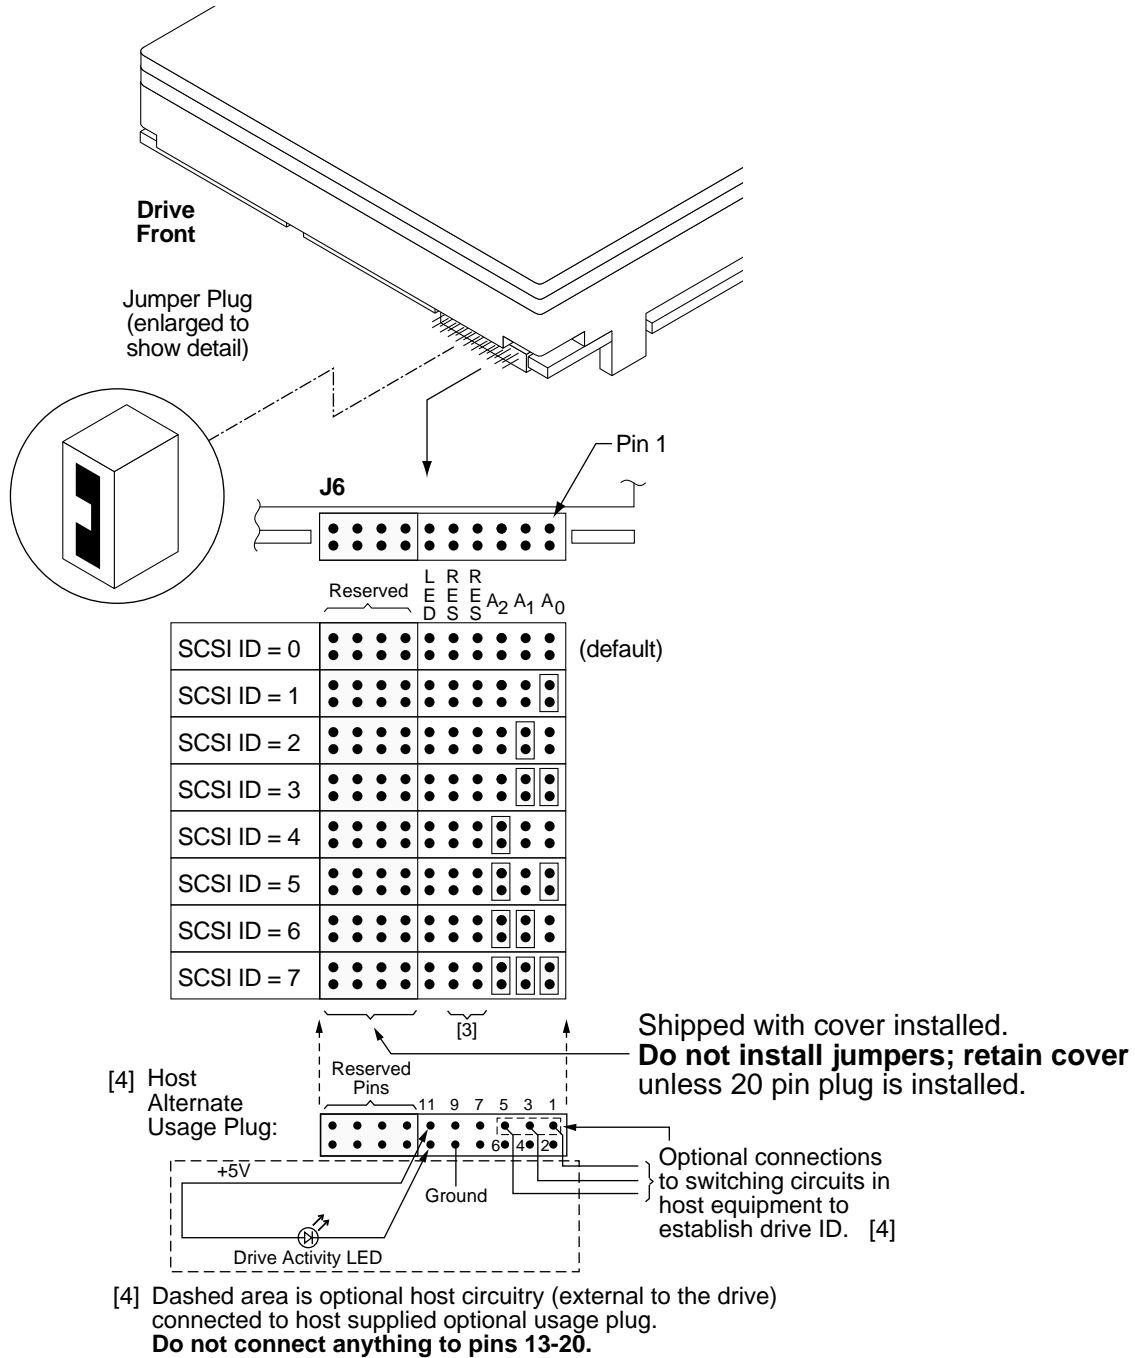
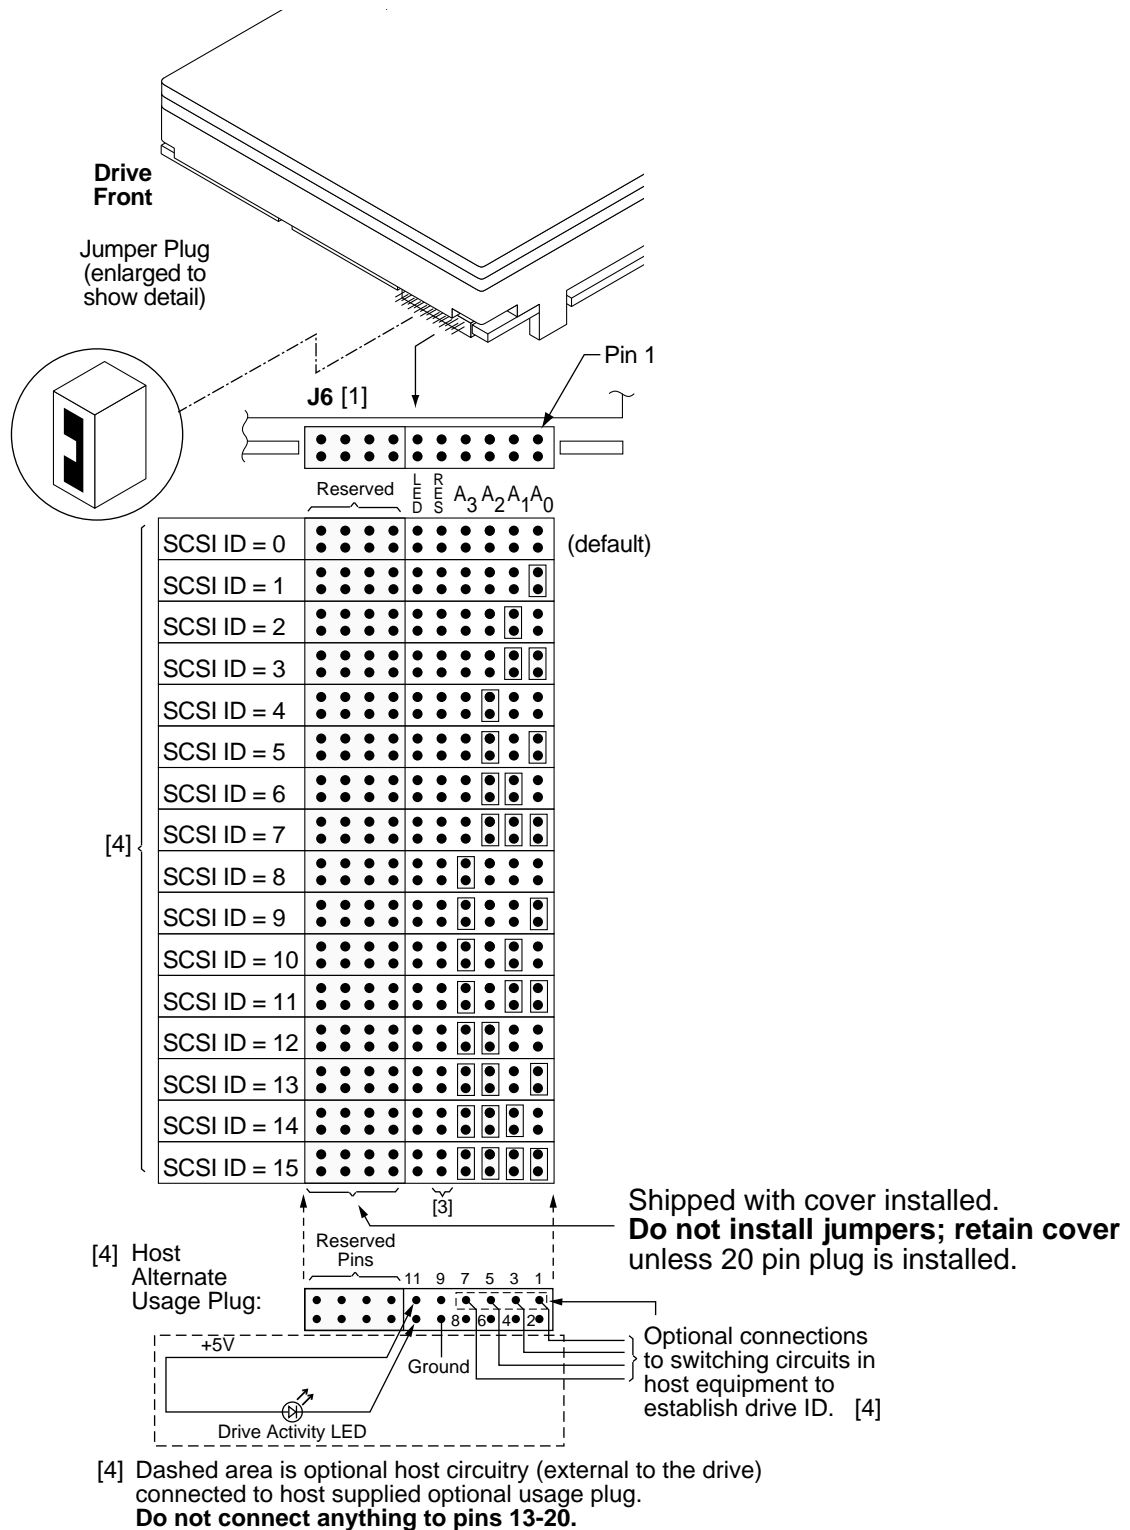

Figure 7a. Hawk 2XL family drive ID select header for model "N"
Figure 7b. Hawk 2XL family drive ID select for models “W” and “WC”
For option jumper locations and definitions refer to Figures 7a, b, c and d. Drive default mode parameters are not normally needed for installation. Refer to Section 9.3.2 for default mode parameters if they are needed.
Figures 7a through 7c show views of the drive ID select jumper connectors. Figure 7d shows the option select jumper connector for all models. Figure 7b shows a rear view of model drives for the purpose of showing J1-auxiliary which has a duplicate pin configuration and purpose of J6 (Figure 7a) on the rear of the drive. Both J1-auxiliary and J6 have pins for selecting drive ID and for connecting the remote LED cable. Only one or the other should be used, although using both at the same time would not damage the drive. The notes following the figures describe the functions of the various jumper positions on the connectors J2, J1-Auxiliary and J6. Suggested part numbers for the jumpers used on J2 is Molex 52747-0211 (Seagate P/N 77679052). A bag with the two jumper plug types is shipped with the standard OEM drives.
[] Notes for Figures 7a through 7c are in Section 8.1.1.
8.1.1 Notes for Figures 7a, 7b, 7c, 7d and 7e.